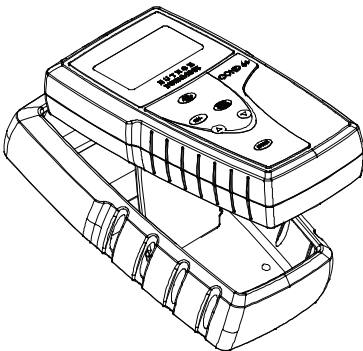

Figure 1
1. To remove the meter from the rubber boot, push out the bottom edge of the meter until it is completely out of the boot. Ensure that the probe cables are not connected. See Figure 1.